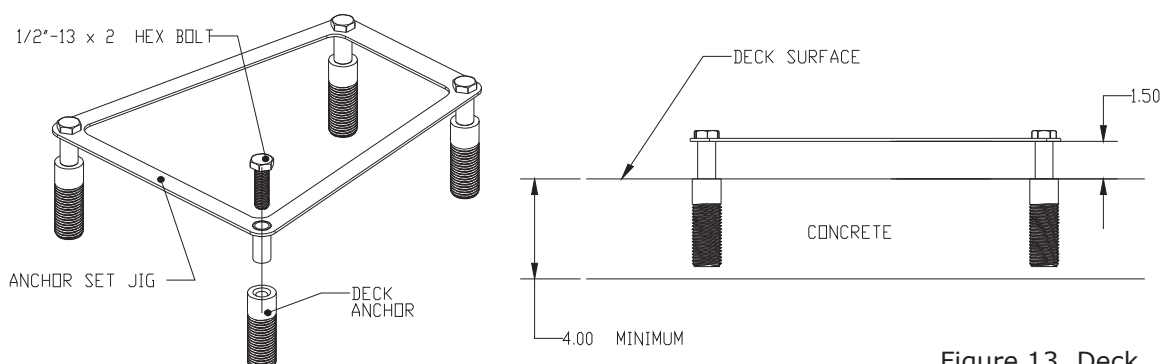

Figure 13. Deck Anchor Installation
7. **Bond at least one of the flush deck anchors per local codes.** Contact your local Authority having jurisdiction for the bonding requirements in your area. A threaded hole for attaching a bonding screw is provided on bottom side of one of the deck anchors. Use the screw provided with the deck anchor kit to attach the bonding wire to the deck anchor. See **Figure 13**.
8. The ML300 Anchor Jig must be used to ensure that the anchors are held in the correct position until the epoxy is cured. To use the Anchor Jig, place the 1/2"-13 X 2" Hex Bolts through the tubes in the Anchor Jig and thread the bolts into the anchors until the top surface of the anchors contact the bottom of the Anchor Jig tubes. See **Figure 13**.